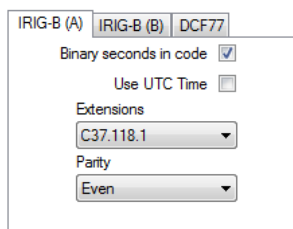

Figure 29 - IRIG-B sub-tab with multiple streams
**Note:** On Clocks which support multiple IRIG-B streams, two sub-tabs which are labelled “IRIG-B (A)” (IRIG-B Stream A) and “IRIG-B (B)” (IRIG-B Stream B) will appear. Refer to Figure 29. Under “Payload” in the individual port settings, the user will be able to configure the port to use either IRIG-B stream.